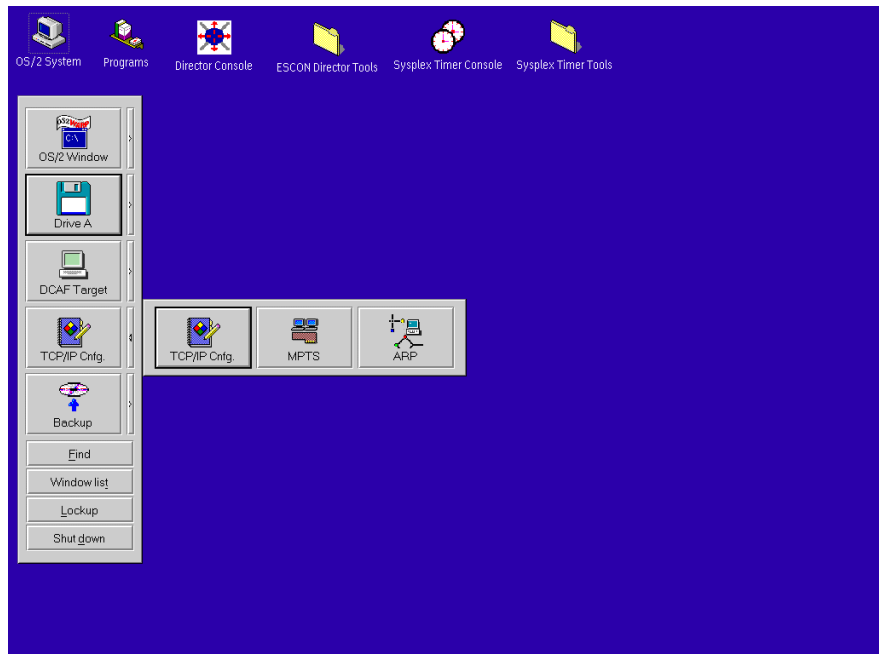

Figure 10-21. OS/2 Desktop (TCP/IP Cnfg. Drawer Open)
12. Click the arrow on the *TCP/IP Cnfg.* drawer to open the drawer (Figure 10-21).